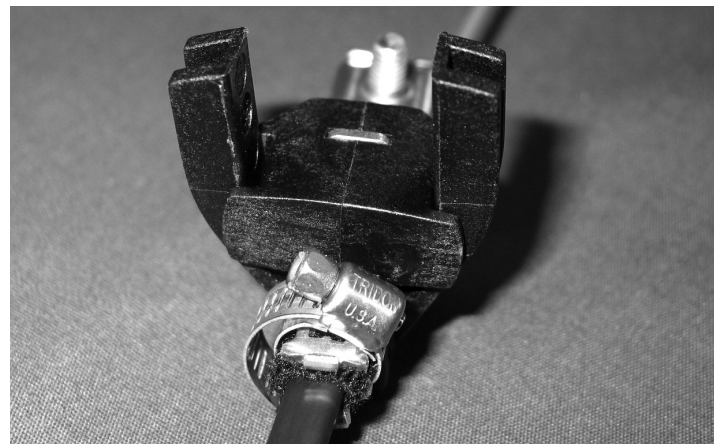

Figure 9
10. Install the hose clamp over the retention clips. (Fig. 9 Tighten the hose clamp such that the teeth fully seat into the cable assembly.